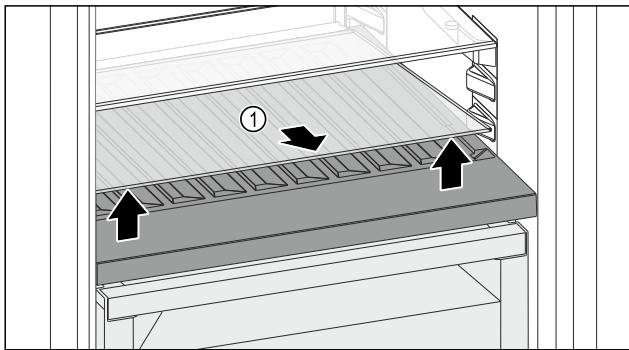

Fig. 116
- ▶ Lift the glass shelf Fig. 116 (1) at the front and remove.
- ▶ Store the glass shelf Fig. 116 (1) in a safe place outside the appliance.